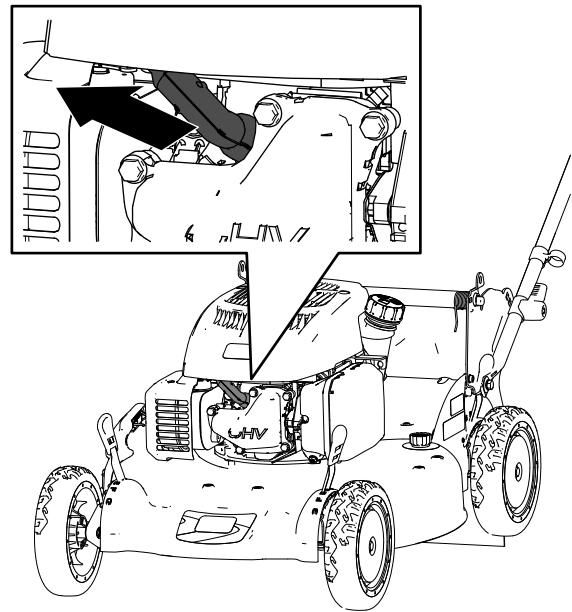

Figure 24
- Disconnect the spark-plug wire from the spark plug (Figure 24).